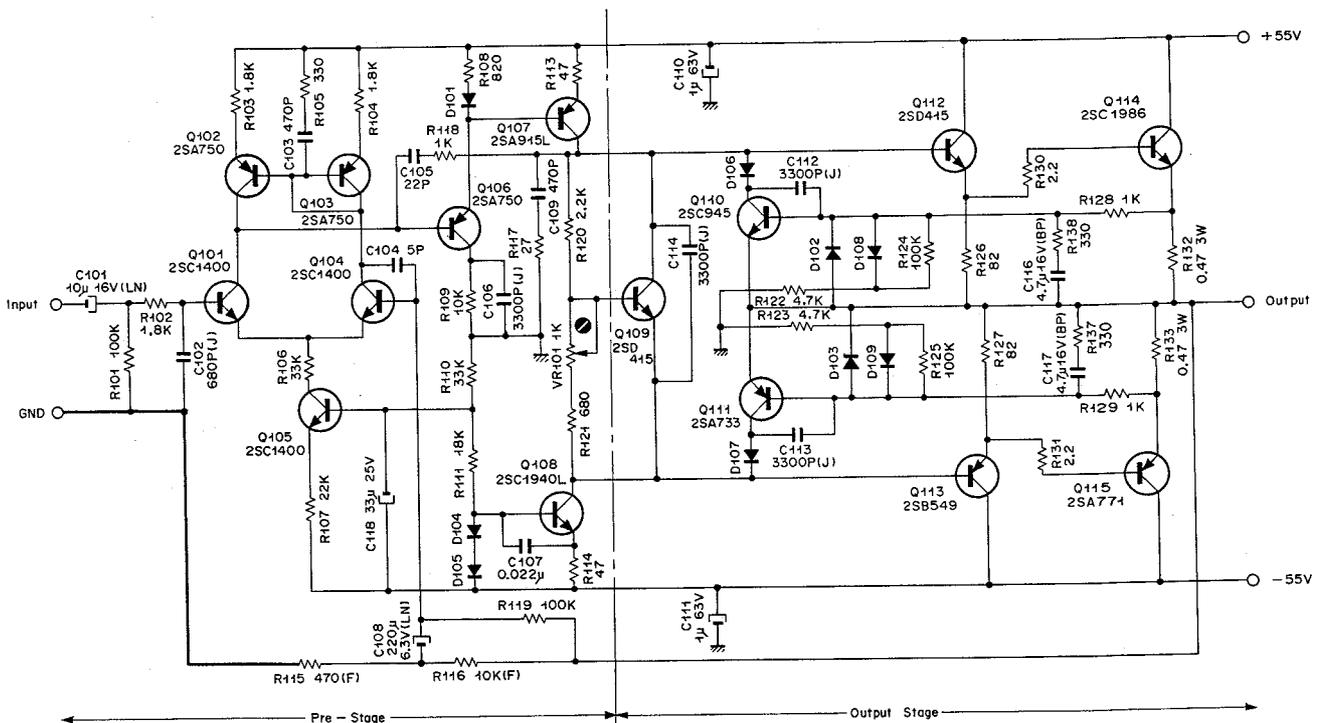
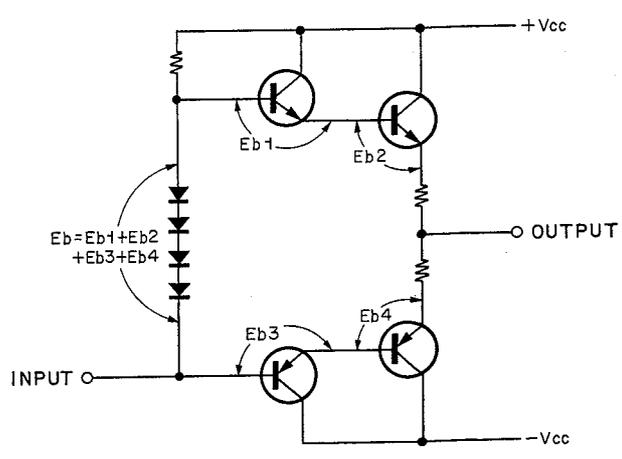

Fig. 2.4.7 Power Amplifier Circuit
Fig. 2.4.8 Conventional Circuit
Refer to Fig. 2.4.7.
Especially for a class B push-pull amplifier, distortion cannot be reduced unless the positive and negative signal amplifiers are well balanced. The amplifier in the N-530, however, is best balanced thanks to the vertically and horizontally symmetric configuration as shown in Fig. 2.4.7. This circuit allows distortion of only 0.1% at 1 kHz 55 watts output even without NFB. This degree of distortion is low enough to make the amplifier used as a high-fidelity unit even if it is given no NFB.
Fig. 2.4.8. shows that a change in current flowing across the diode varies the terminal voltage and that E_B changes with signal current. These changes result in the generation of distortion. It is a matter of course that signal current flowing across the diode will produce distortion. See Fig. 2.4.7. Transistor Q109 that generates bias voltage forms an emitter-follower circuit of class A operation. Thus this circuit does not induce distorted signals.
For an ordinary class B amplifier, crossover distortion is reduced by increasing idling current thus overlapping the operating ranges of the positive and negative transistors. The overlap portion acts as a class A amplifier. Generally, the degree of amplification decreases where a change takes place from class A to B and no linear curve is obtained as shown a thick continuous line in Fig. 2.4.9. (A). However, if the circuit shown in Fig. 2.4.7. is current-driven, a linear curve can be obtained at the point of change from class A to B as shown in Fig. 2.4.9. (B).